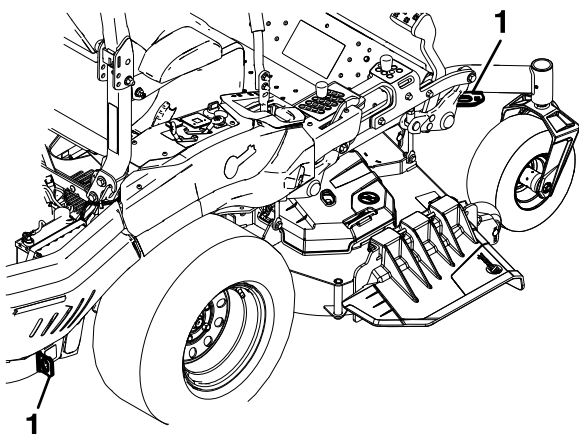

Figure 20
- Securely fasten the machine to the trailer or truck with straps, chains, cable, or ropes. Only use the four designated tie-down locations on the mower—two on the left side and two on the right (see Figure 20). Use these locations even when transporting the mower with an attached accessory. Using non-designated locations may cause damage to the mower and/or attachment.